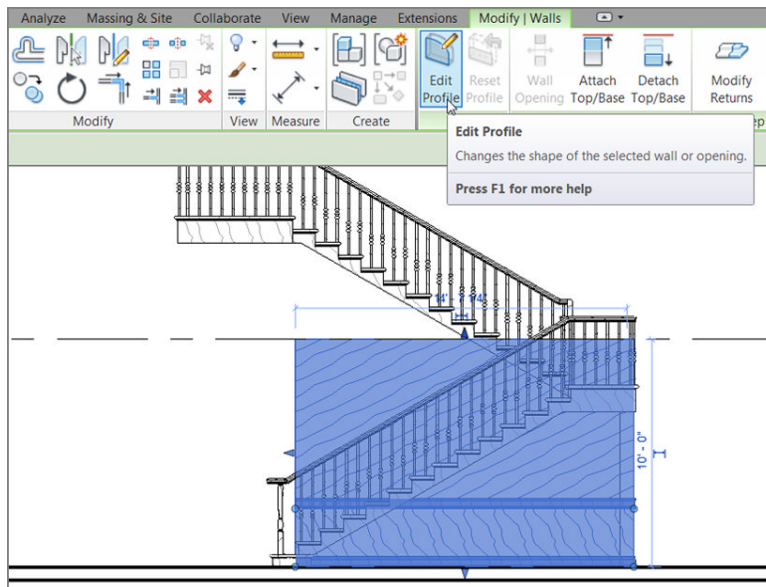

FIGURE 16.13: Selecting the wall to be modified and clicking the Edit Profile button
4. Select the wall, as shown in Figure 16.13.
5. On the Mode tab, click Edit Profile (see Figure 16.13).